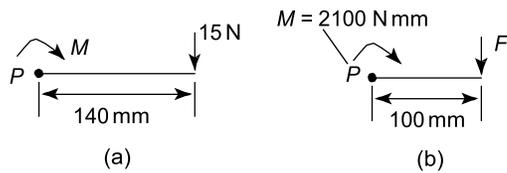

Figure 5.2
From above, $M = F \times d$, where M is the turning moment, F is the force applied at right angles to the spanner and d is the effective length between the force and the centre of the nut. Thus, with reference to Figure 5.2(a):
- (b) Turning moment, M is 2100 N mm and the effective length d becomes 100 mm (see Figure 5.2(b)). Applying $M = F \times d$ gives: